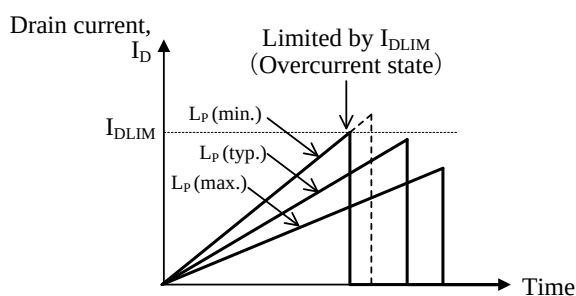

Figure 13-2 Relation between L_p and drain current I_D
- The peak value of drain current I_D in normal operation is determined by L_p value. Since the slope of I_D is expressed as V_{DS}/L_p , the smaller the L_p value, the steeper the slope of I_D becomes. Thus the peak value of drain current becomes high as shown in Figure 13-2. The IC limits the peak current by drain current limit I_{DLIM} (Overcurrent state). If L_p value becomes small by variation, there is the case that the system is in overcurrent state. Then the designed output power cannot be achieved. Thus the L_p value should be determined after the confirmation in actual operation using minimum L_p value within the variation, where the peak current value should be less than $I_{DLIM}(\text{MIN})$ in minimum input voltage of power supply.